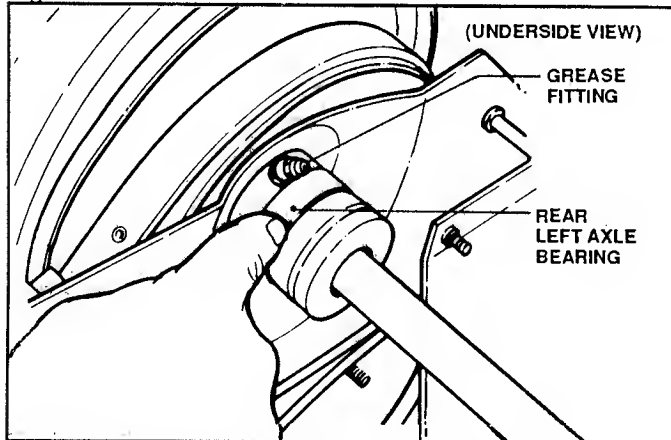

FIGURE 10
- **REAR LEFT AXLE BEARING:** Lubricate through fitting with 2 shots of bearing grease from a pressure gun. Right hand bearing is lubricated by transmission. See Figure 10.